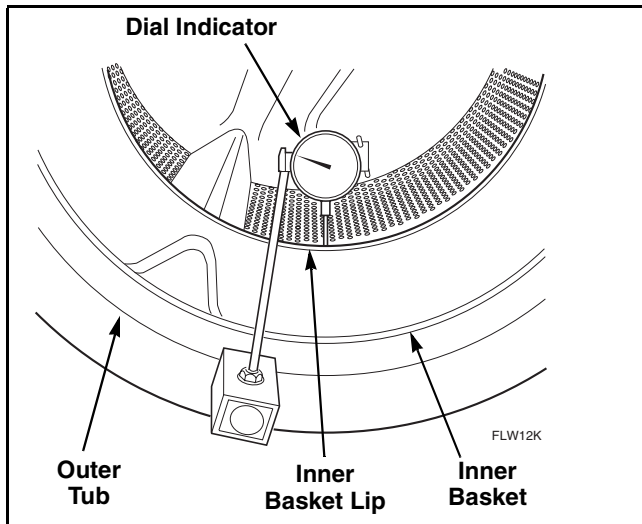

Figure 41
- i. Check for concentricity/roundness of assembly. Use a dial indicator to check that concentricity at the inside edge of inner basket lip is a maximum of .05 inch TIR (Total Indicator Runout). Refer to *Figure 41*. If concentricity is